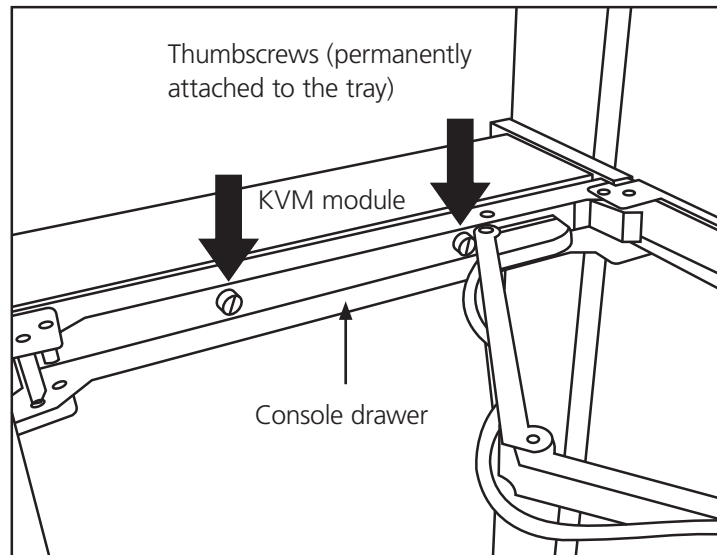

Figure 3-10. Securing the KVM module to the console drawer.
- Slide out the console drawer. Push the KVM module evenly toward the drawer and secure both units using the attached thumbscrews. See Figure 3-10.